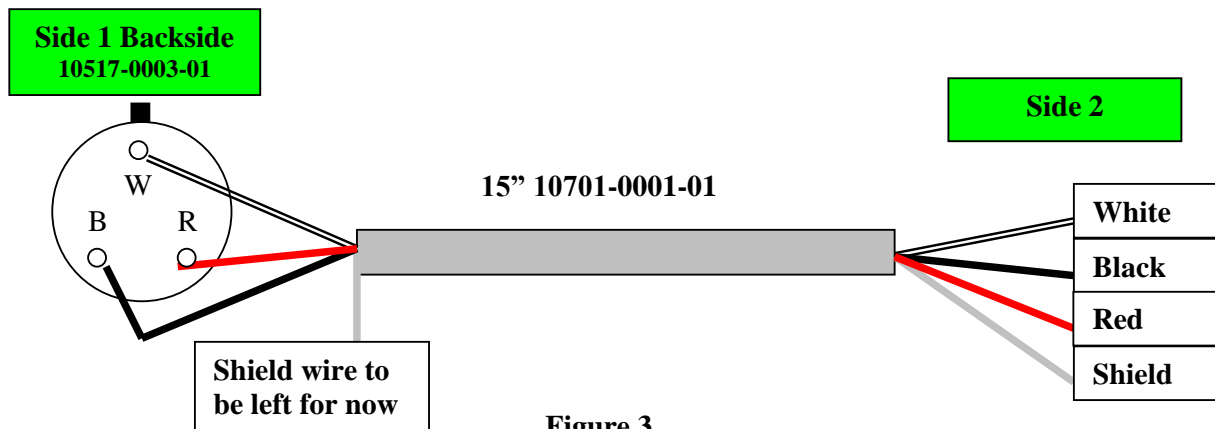

Figure 3
- 3.2. Strip outer insulation on **Side 1** to 1 ¼" (see Figure 3).
- 3.7. Strip the outer insulation of **Side 2** to ¾" (see Figure 3).